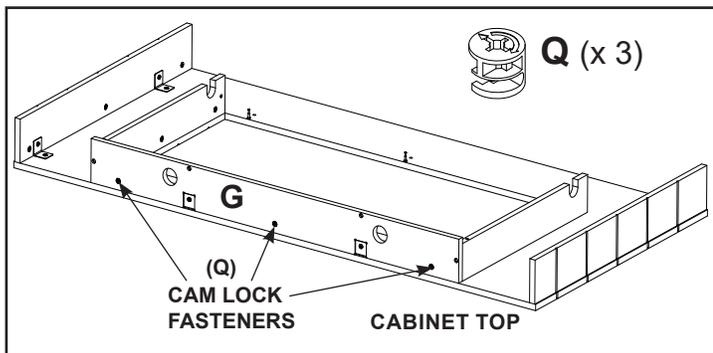

Figure 16
- Turn each of the three (3) Cam Lock Fastener (Q) clockwise 1/4 turn. Refer to Step 4 and Figure 16.